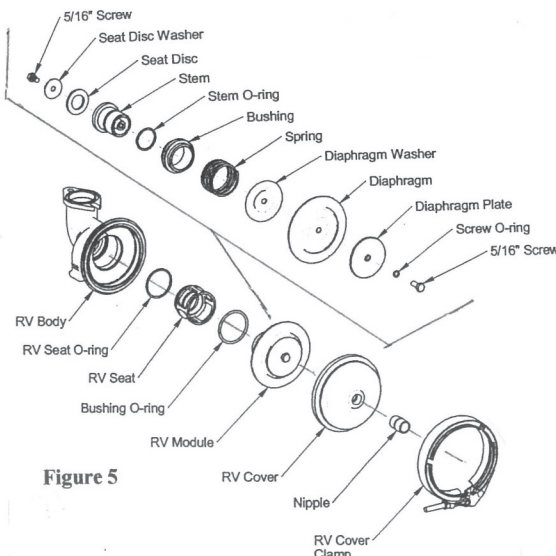

Figure 5
1. Unscrew the sensing hose from the nipple (sensing hose is not shown). See Figure 5.